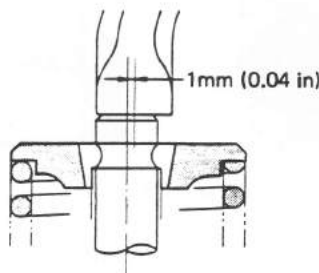

Fig. 130
- e. Place ten cylinder head holding nuts and adjust the EX rocker arm supporter so that the center of the valve stem is 0.04 in. (1 mm) shifted from that of the rocker arm as shown in Fig. 130
Note: Fig. 130 shows the EX valve rotation mechanism, and the center of the valve stem is 0.04 in. (1 mm) shifted from that of the arm. There is a clearance of 0.02 in. (0.5 mm).